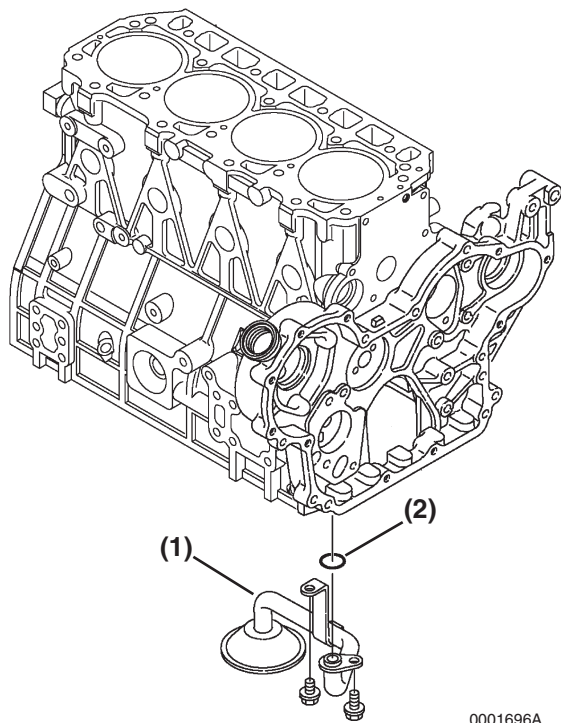

Figure 6-91
3. Remove the oil pickup tube (**Figure 6-91, (1)**) and O-ring (**Figure 6-91, (2)**).